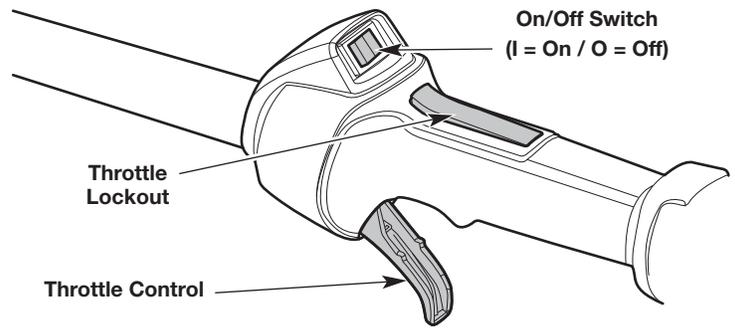

Fig. 9
**NOTE:** There is no need to turn the unit on. The On/Off switch is in the **On (I)** position at all times (Fig. 9).
**NOTE: DO NOT** squeeze the throttle control (Fig. 9) until step 6.
6. Press and hold the throttle lockout (Fig. 9). Squeeze the throttle control as needed for operation (Fig. 9).
2. Press and hold the On/Off switch in the **Off (O)** position until the engine comes to a complete stop (Fig. 9).
**NOTE: DO NOT squeeze the throttle control (Fig. 9) until step 8.**
8. Press and hold the throttle lockout (Fig. 9). Squeeze the throttle control as needed for operation (Fig. 9).